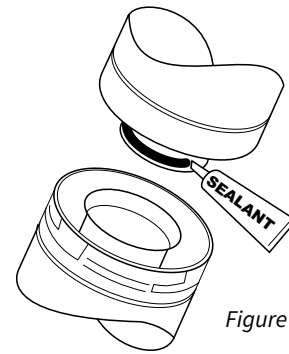

Figure 6.
- **JOINT SEALING REQUIREMENT:** APPLY A 1/8" BEAD OF HIGH-TEMPERATURE SEALANT OR MIL-PAC® TO THE MALE SECTION OF THE INNERVENT PIPE. THE CEMENT SHOULD FORM A SEAL BETWEEN THE INNER AND OUTER PIPES. **DO NOT USE SILICONE.** SEE FIG. 6. SEE VENT MANUFACTURER'S INSTRUCTIONS.